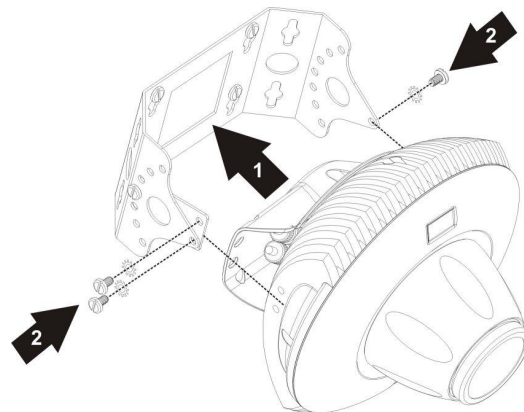

Fig 3.10) Fixing the camera to the bracket
- 6) You can now present the camera to the bracket and secure it using the three remaining M5 screws as indicated in Fig 3.10)